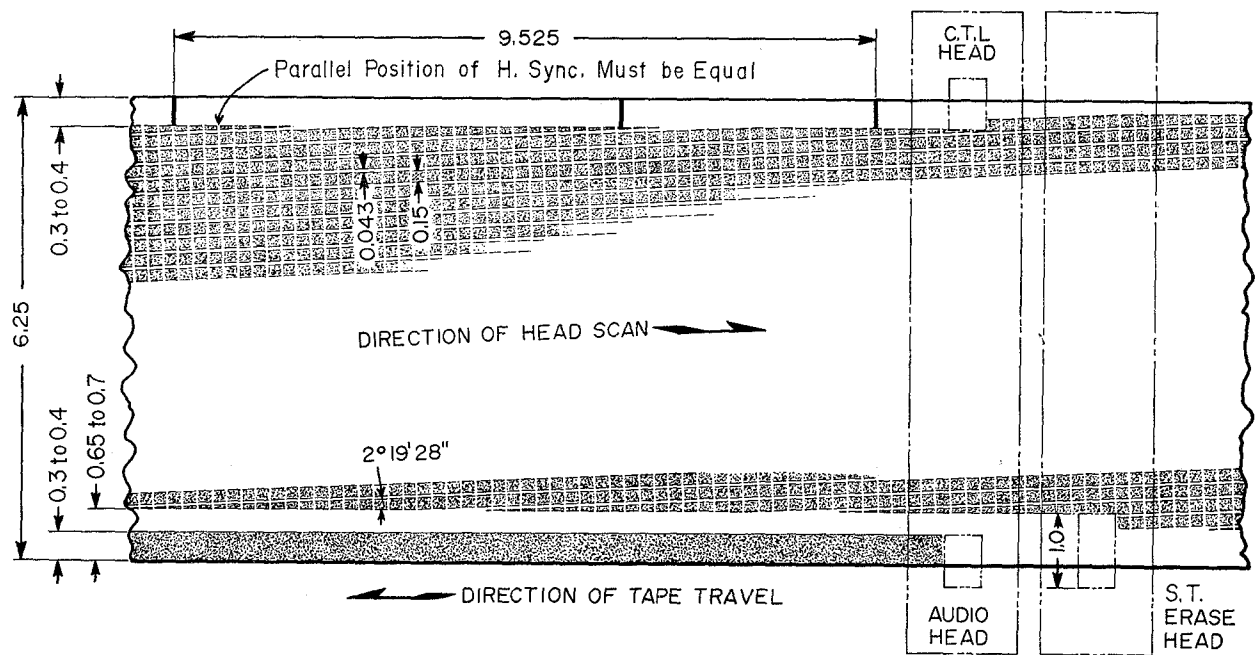

Fig. 1-26 Recorded Pattern of Video Tape (Viewed From center of Head Drum)
- j) Adjust height of side track erase head as well as height of control and audio heads to positions as shown in fig. 1-26.